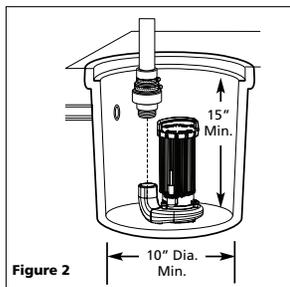

Figure 2
1. Install pump in a sump pit with minimum size as shown in Figure 2. Construct sump pit of tile, concrete, steel or plastic. If the sump pit already exists, disconnect power to existing pump and make certain pit is the correct size.